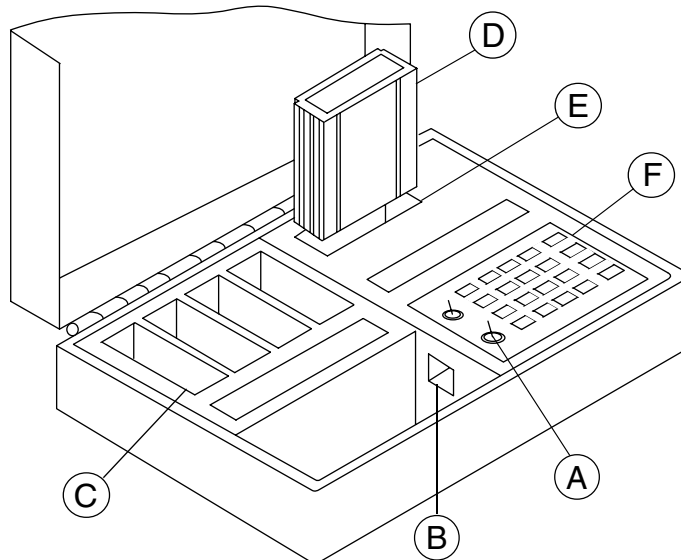

Figure 3: Universal Test Set
1. Place universal test set (fig. 3) on a flat surface. Open case until cover locks into the open position.
2. Make sure test set power is off (O) by checking position of power switch (A, Fig. 3) on keyboard (F).
3. Plug one end of test set power cord into power cord receptable (B); plug other end into a grounded power source.
4. Insert Self-test Module (D) into module receptacle (E) in upper right corner of test set. Make sure module label is facing keyboard (F). Never use receptacle for storing modules when test set is not in use; use only module holders (C) for storage.
5. Turn power switch (A) to on (I). The red light on self-test module will glow and an identifying message will appear on the display.